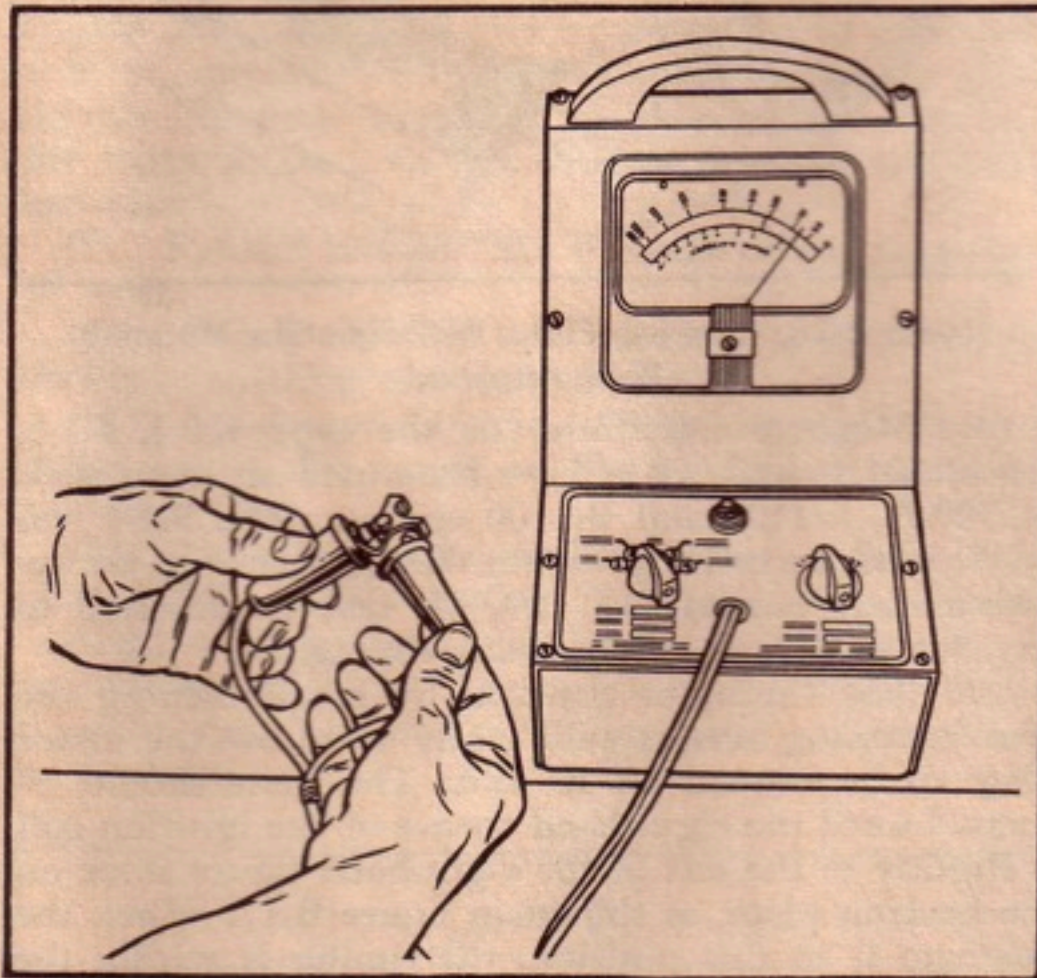
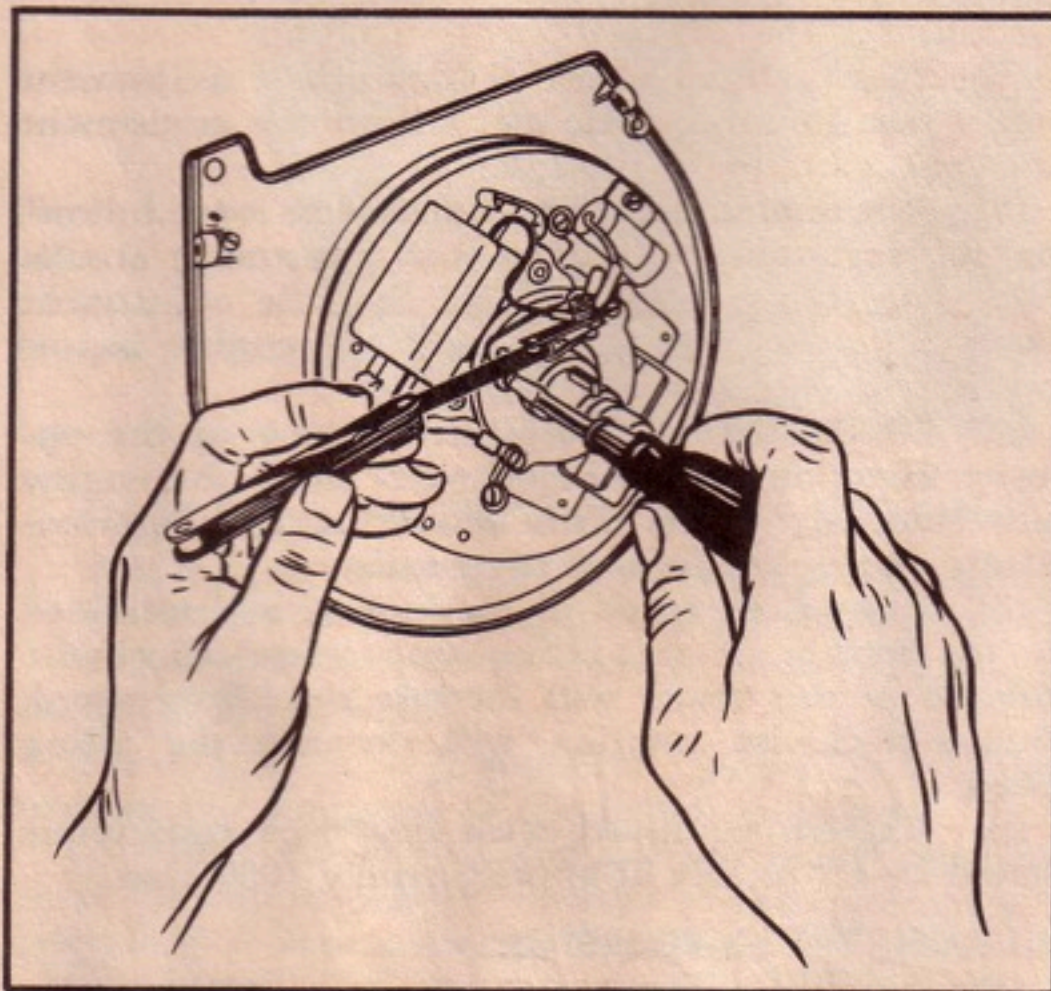

Figure B-12. Testing Resistance Across Breaker Points
Figure B-18. Adjusting Breaker Points on Scintilla Magneto
(13) If the breaker points are badly burned, it is better to install a new set than to attempt any form of repair. Points just slightly oxidized or pitted can be salvaged by honing the surface with a flat Carborundum hone. Be sure to hold the point assemblies solidly in order to produce a flat surface.
(14) Clean breaker contact surfaces with a piece of lintless, seam-binding tape saturated with carbon tetrachloride (not fire extinguisher fluid) or fireproof Energine. Pull the wet tape back and forth between the points several times and separate the points before removing the tape.
(15) If breaker points have been resurfaced, it is advisable to assemble the breaker points outside of the engine and test the resistance between the two points with the condenser tester, as shown in figure B-12.
(16) When testing, allow the breaker points to be held together by normal spring tension. Resistance across the points should be negligible. If there is noticeable resistance across points when clean, replace them.
(17) Before adjusting the breaker point gap, rotate the flywheel until the rubbing block is on the high portion of the cam in order to open the gap to the widest position. Adjust the points on Scintilla magnetos to .018 inch, in accordance with figure B-18.